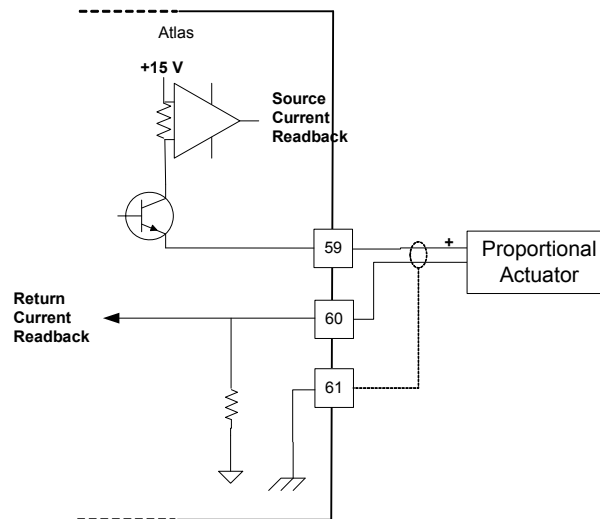

Figure 6-8. Wiring Example—Actuator Output Interface to the SmartCore Board
- Refer to Figure 6-8 for actuator output wiring.